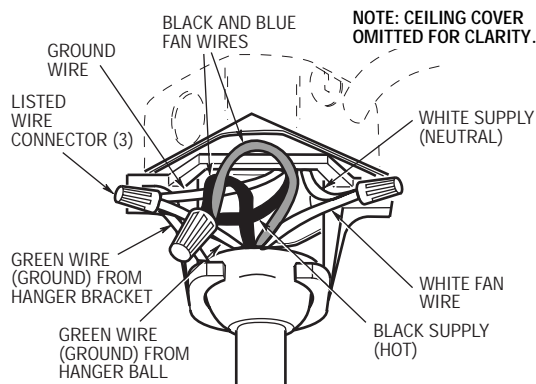

Figure 9
1. Connect the green grounding lead from the hanger ball and the green grounding lead from the hanger bracket to the grounding conductor of supply (this may be a bare wire or wire with green colored insulation). Securely connect wires with wire connectors supplied. (Figure 9.)
2. Securely connect the fan motor white wire to the supply white (neutral) wire using wire connector supplied (Figure 9). Securely connect the fan motor black wire and blue wire to the supply black (hot) wire using wire connector supplied (Figure 9). After connections have been made, turn leads upward and carefully push leads into the outlet box, with the white and green leads on one side of the outlet box and the black and blue leads on the other side of the outlet box.